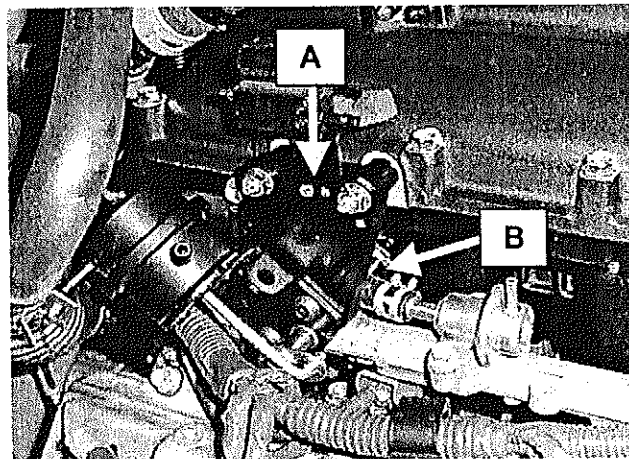

Figure 26
8. Install the supercharger bypass actuator assembly (Arrow A, Figure 26). Use nuts and spacers removed previously.
NOTE: Check that the bypass actuator rod does not interfere with the factory fuel return hose (Arrow B, Figure 26). Verify the shaft engagement into the actuator slot.